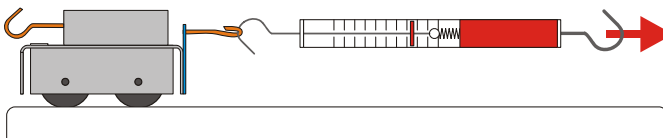

Figure 2
- 6) Replace the friction block to the trolley, place the weight on the trolley and hook the dynamometer to it (see Figure 2).